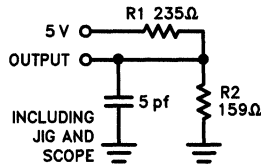

Figure 1b
8. tHZCS is tested with load shown in Figure 1b. Transition is measured at steady state High level - 300 mV or steady state Low level + 500 mV on the output from the 1.5V level on the input.